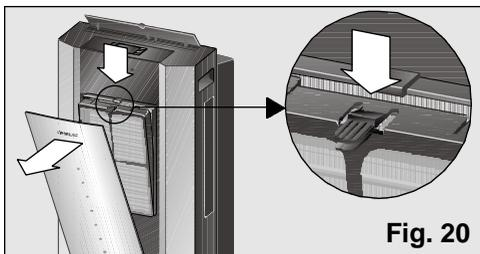

Fig. 20
All models are fitted with a basic filter which needs to be cleaned regularly, **Fig. 19**. The filter is accessed by pressing the tab at the top and removing it from its housing, **Fig. 20**. The filter is cleaned under a cold tap, dried and replaced.
- Remove the basic filter from the appliance, **Fig. 20**.